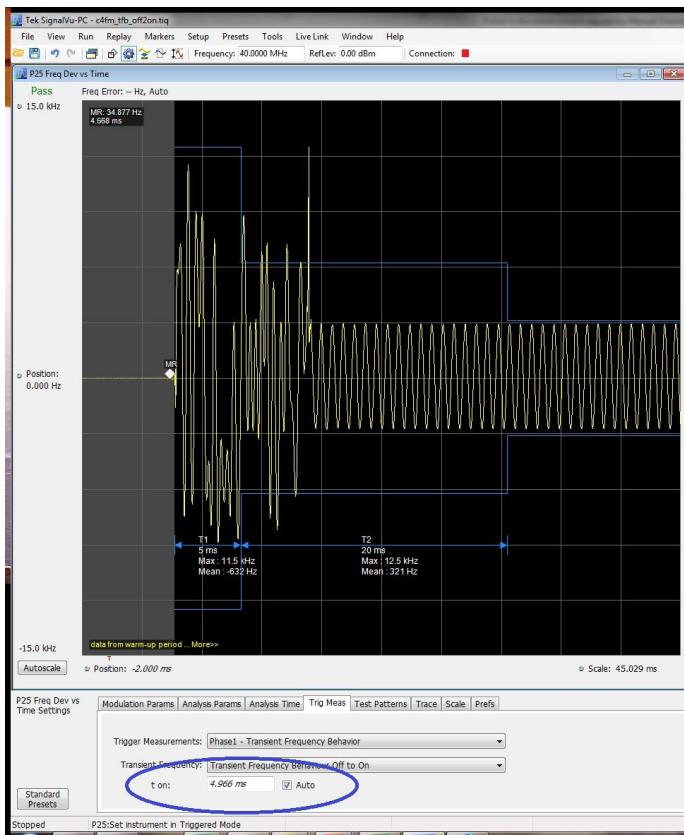

Figure 20. Transient Frequency Behavior measurement control.
- This measurement can be done for On to Off and Off to On case. The choice of which experiment is being performed needs to be selected by the user by choosing from a drop down that appears in the Trig Meas Tab of the settings panel. Please refer to Figure 20.
- The identification of  $t_{ON}$  is done by looking for a significant frequency deviation after a certain power level has been achieved. A manual override for the  $t_{ON}$  is also provided when Transient Frequency Behavior measurement is chosen in the Trigger Meas tab. Please refer to Figure 20. This allows the user to manually override the  $t_{ON}$  that is calculated (by releasing the Auto option) and place it as appropriate based on the Freq Dev vs Time display. The same holds good for  $t_{OFF}$  as well when the measurement is being done for On to Off case.  $t_1$  and  $t_3$  are identified after  $t_{ON}$  and  $t_2$  before  $t_{OFF}$  (in case of ON to OFF).